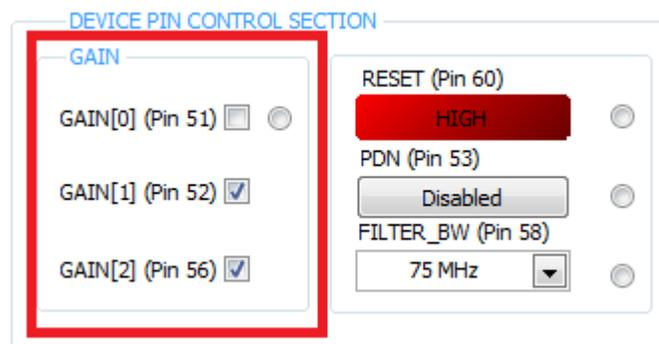

Figure 50. PGA5807 GUI Setup for PGA5807+ADS5296 Gain Test 4
- Return to the *PGA5807* tab and change the **GAIN[x]** values in the *DEVICE PIN CONTROL SECTION* to 18dB as shown in Figure 50.